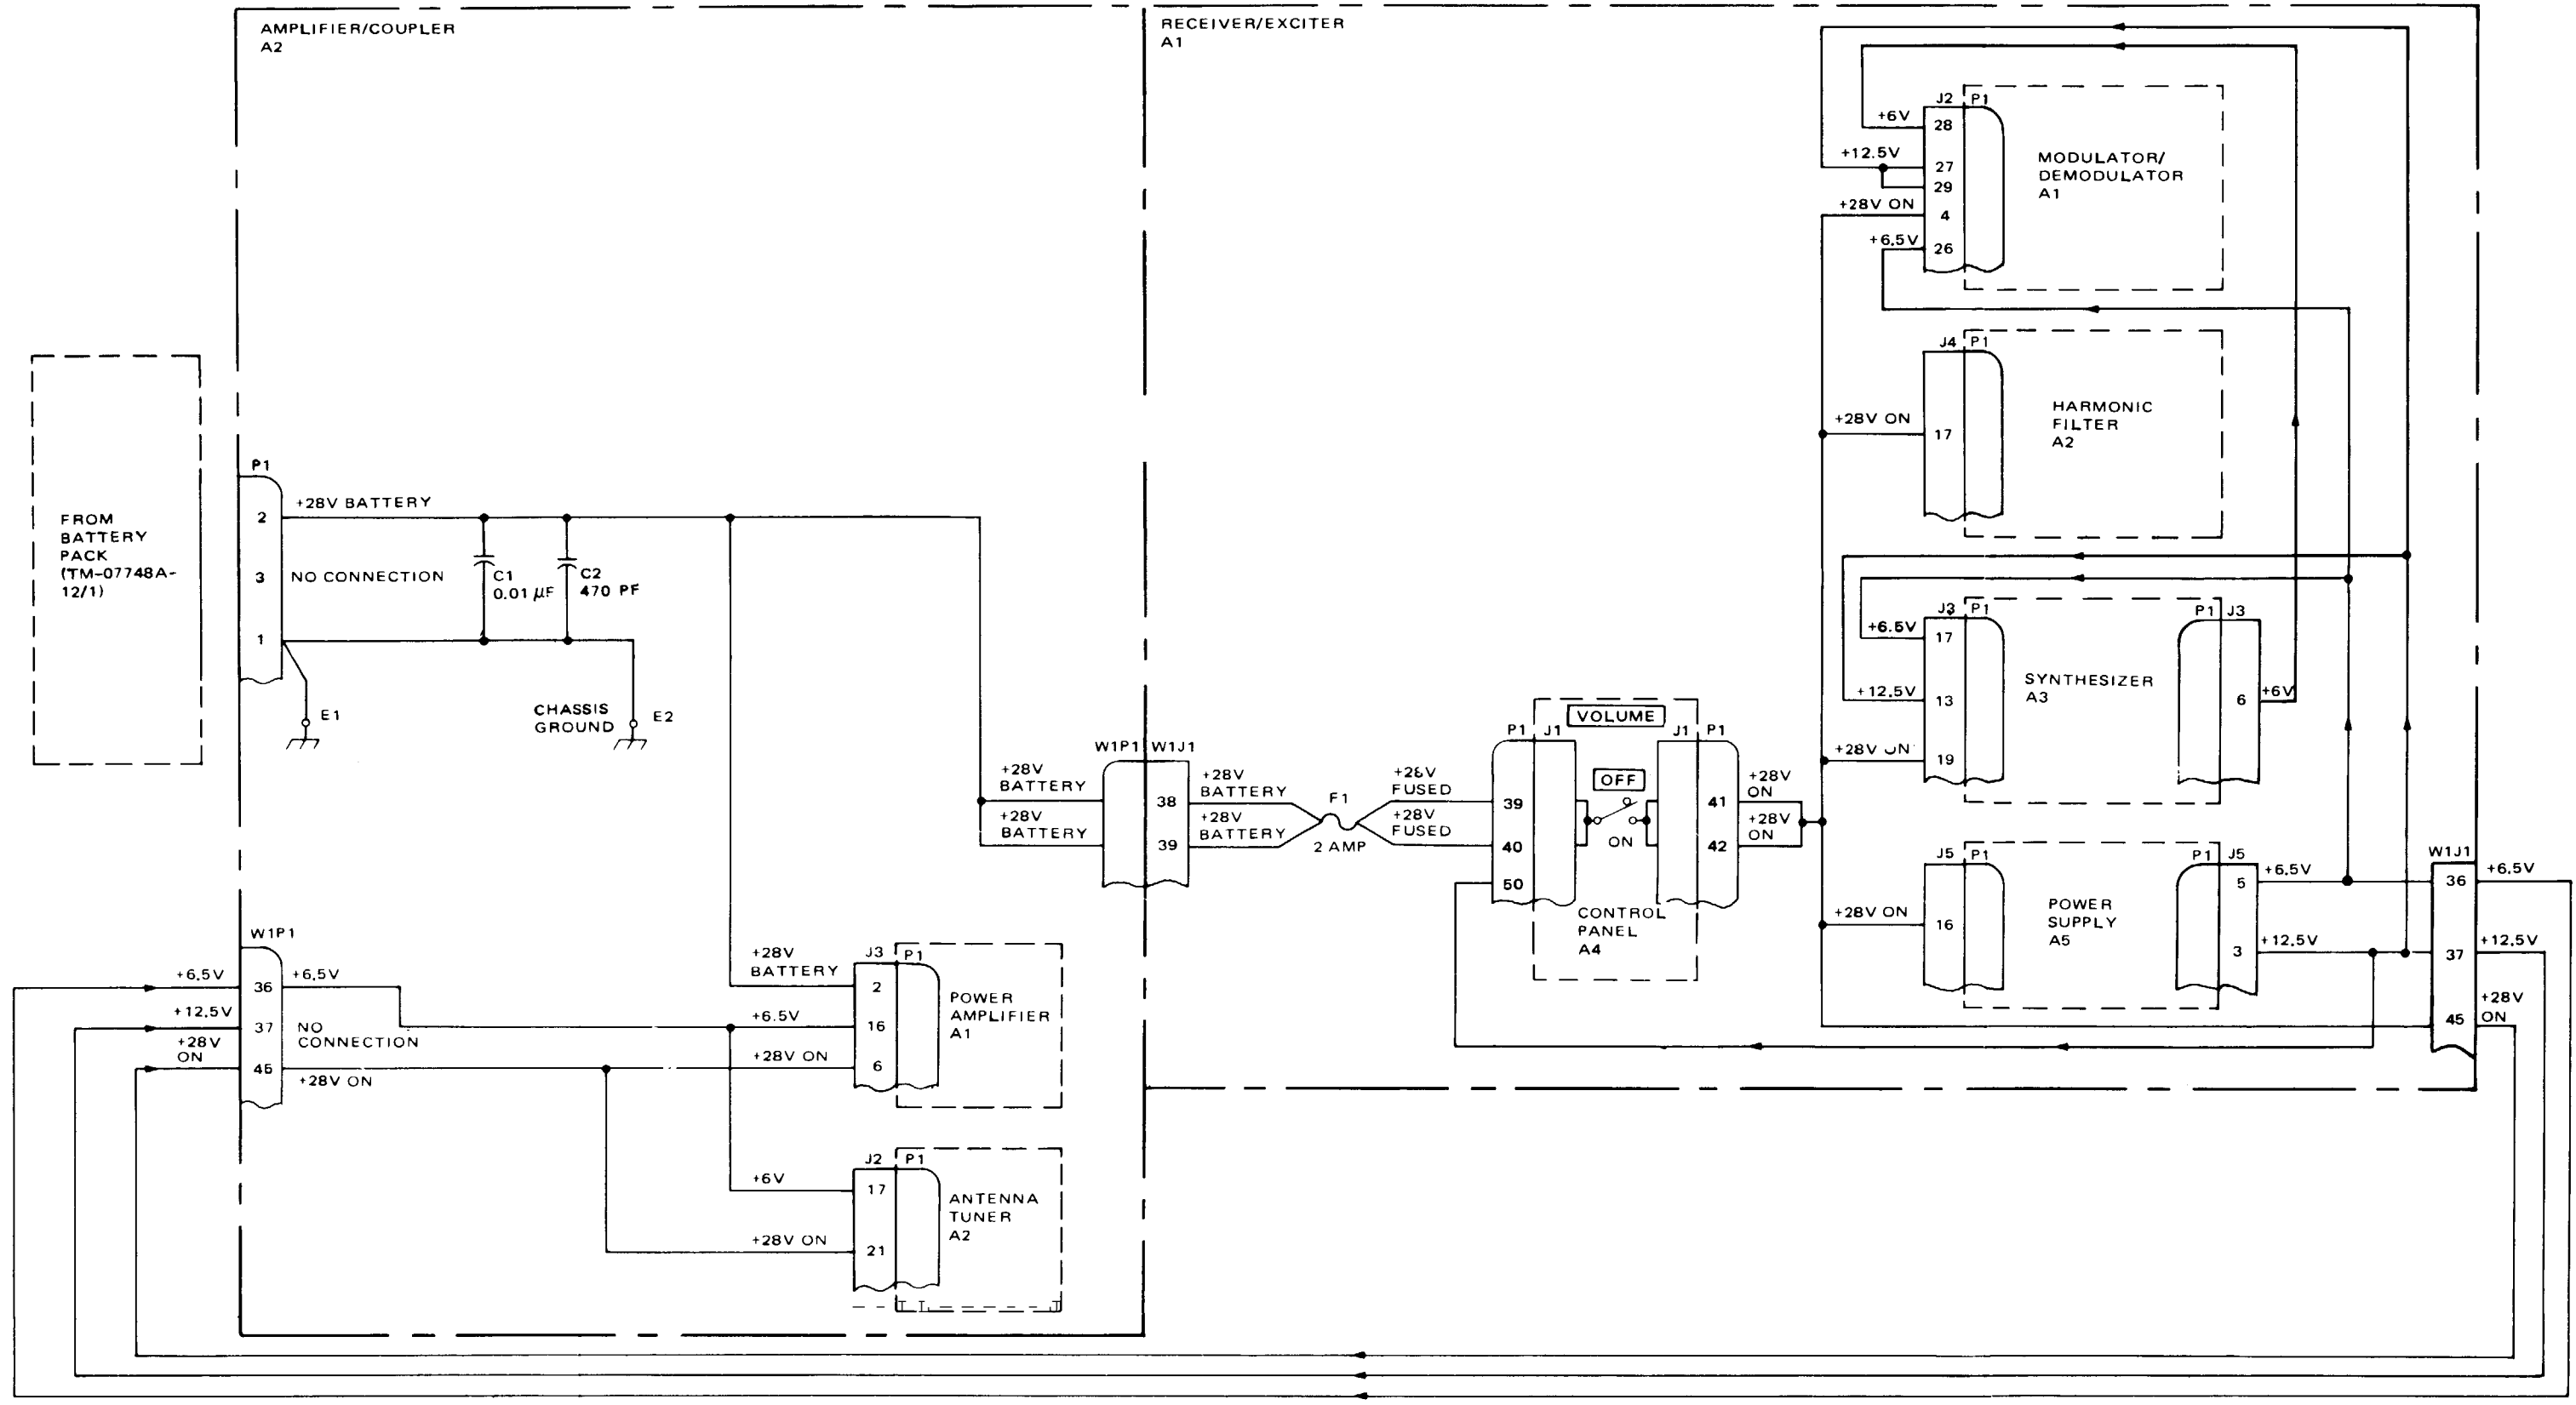

Figure 4-1. Radio Set Power Distribution
7. Maintenance Diagrams (power distribution (fig 4-1), rf cabling (fig 4-2), component location (fig 4-3), test setup (fig 4-4), performance test and troubleshooting (fig 4-5))
figure 4-1 and rf cabling diagram figure 4-2. Once a fault has been isolated and corrected, the performance test must be repeated. Do not skip blocks in the performance test, because succeeding blocks may be predicated on certain faults being eliminated.